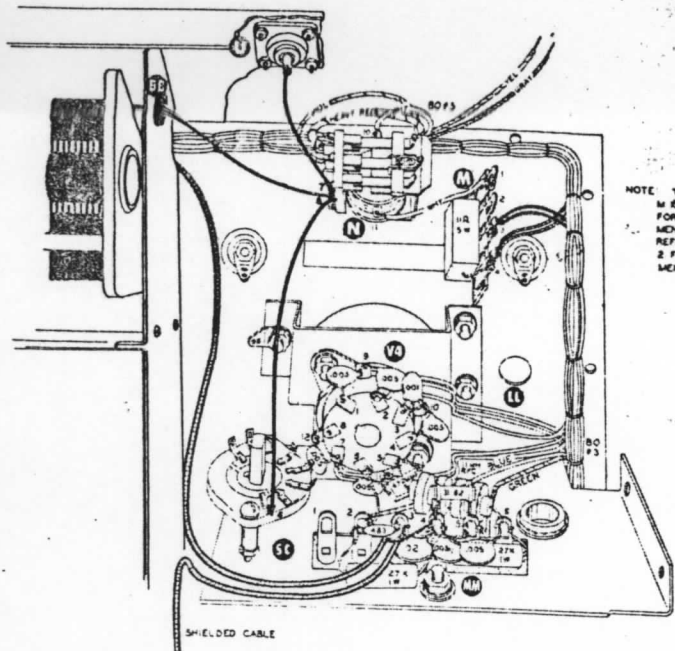

Figure 27
- (✓) Now connect the #16 wire passing through grommet BB to relay lug N8 (NS). See Figure 27.